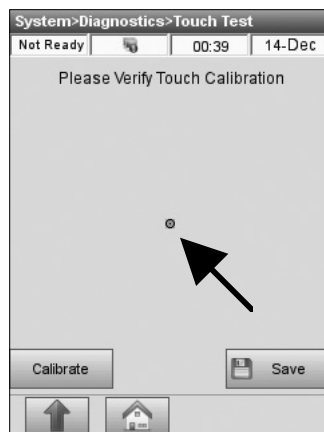

Fig. 8-31 Perform Touch Test
- Touch the screen and a dot should appear under the touched location (Fig. 8-31).